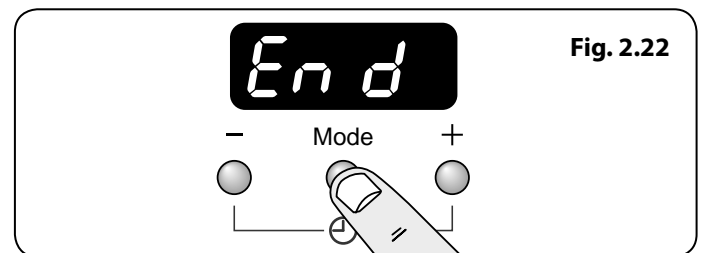

Fig. 2.22
2. Press the mode [Mode] button until the display flashes 'End' (Fig. 2.22). Then set the 'stop time' using the [+] or [-] buttons. After a 5 second period following adjustment the current time will be displayed along with the 'A' and cooking [🔥] symbols (Fig. 2.23).